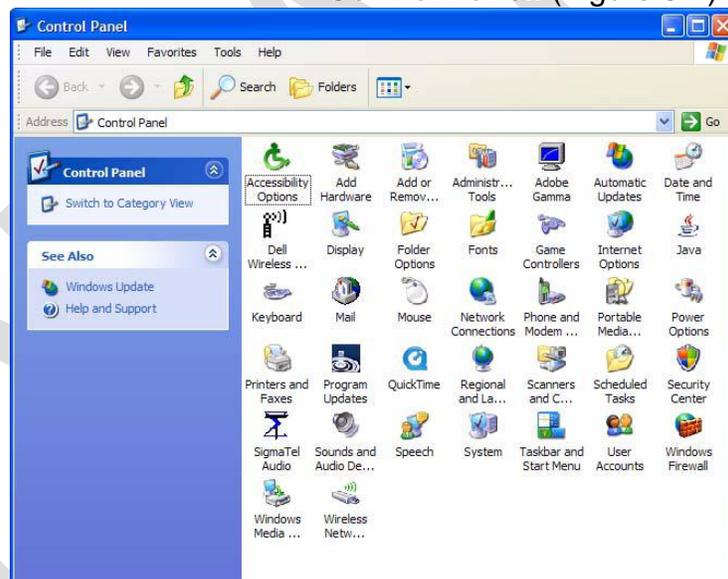

Figure 8-1 Control Panel
1. Click **Start**, point to **Settings**, and then click **Control Panel**. (Figure 8-1).